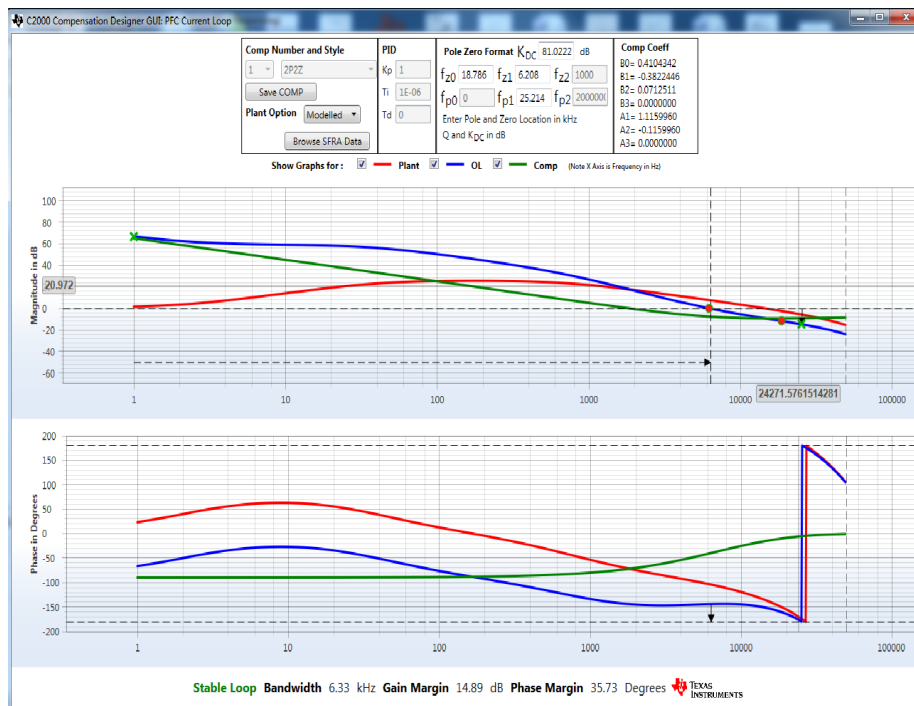

Figure 9. Compensation Designer Tool
Figure 9 shows a snapshot of this tool. This snapshot shows the frequency response of the PFC power stage (Plant), the loop (OL), and the digital compensator (Comp). The plot indicates the bandwidth, the gain margin, and the phase margin of the loop.